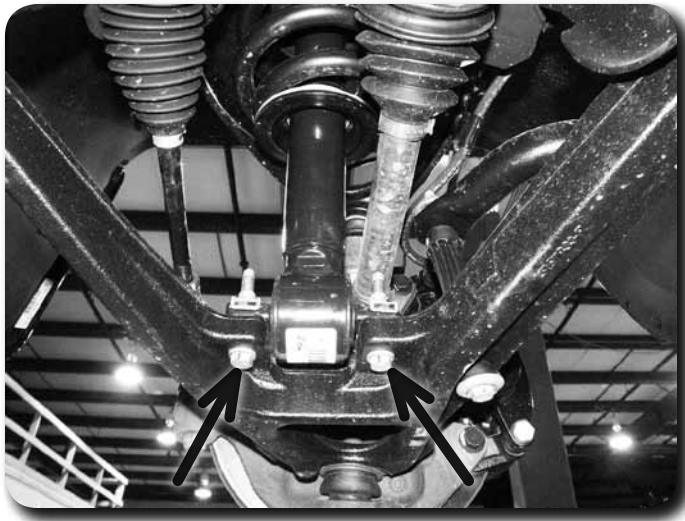

Figure 8
13. Support the lower control arm with a jack. Remove the lower strut mount bolts **Figure 8**. Save bolts.